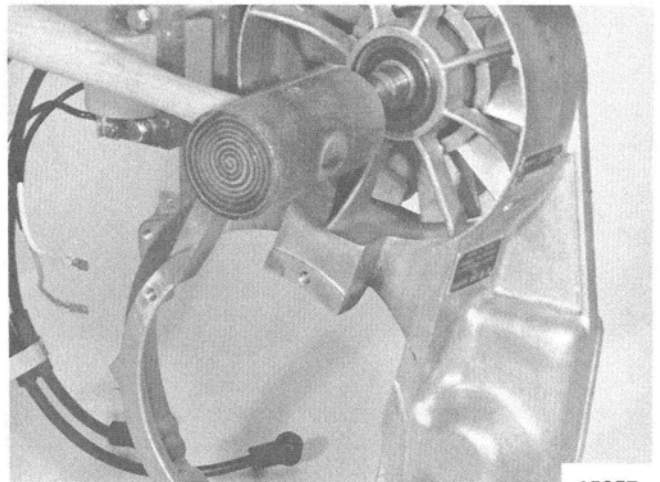

Figure 1. Fan Removal
2. Drive out fan assembly with soft hammer. (Figure 1)